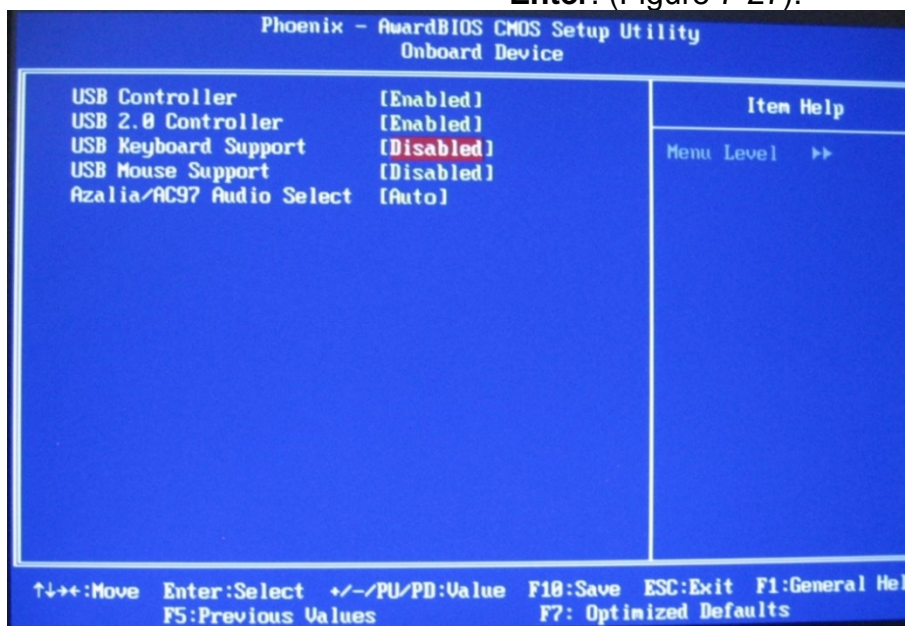

Figure 7-27 USB Keyboard Support
17. On the **Onboard Device** screen select **USB Keyboard Support** and Press **Enter**. (Figure 7-27).